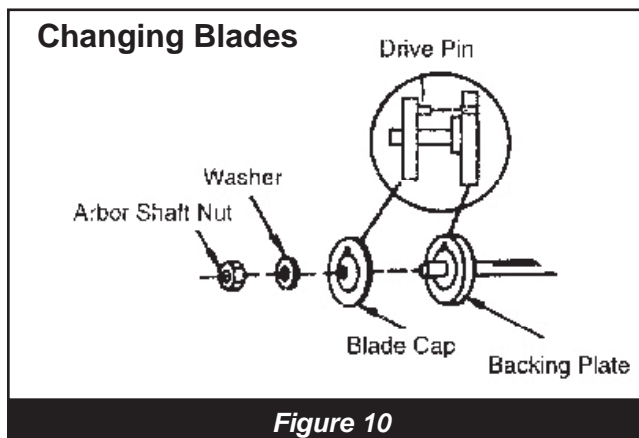

Figure 10
- The backing plate and blade cap (**Figure 10**) should be the same diameter, do not use if they are different diameters. For abrasive blades and for all steel centered diamond blades, the backing plate and blade cap must be at least 1/4 the diameter of the blade.